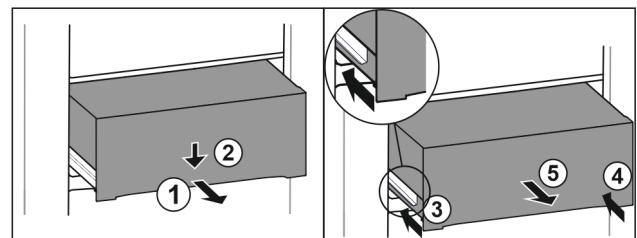

Fig. 123
- ▶ Pull out drawer half-way. Fig. 123 (1)
- ▶ Push the drawer down at the front. Fig. 123 (2)
- ▶ Push the left rail in by about 2 cm. Fig. 123 (3)
- ▶ Push the right rail in by about 2 cm. Fig. 123 (4)
- ▶ Remove drawer to the front. Fig. 123 (5)